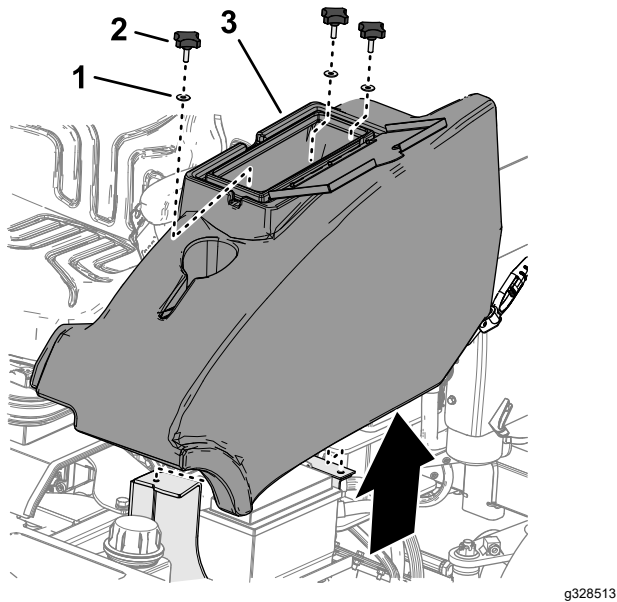

Figure 47
- At the left side of the operator's platform, open the door of the storage compartment (Figure 47).
- Remove the 3 knobs and 3 washers that secure the storage compartment to the machine, and remove the compartment (Figure 47).